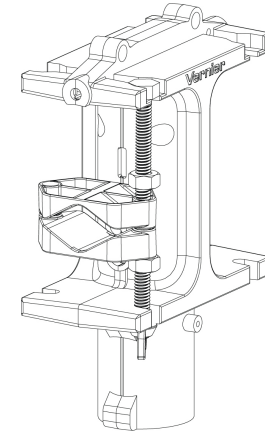

Figure 3
7. Attach a wing nut onto the bottom of the bolt so that it is secured to the nacelle (see Figure 3).